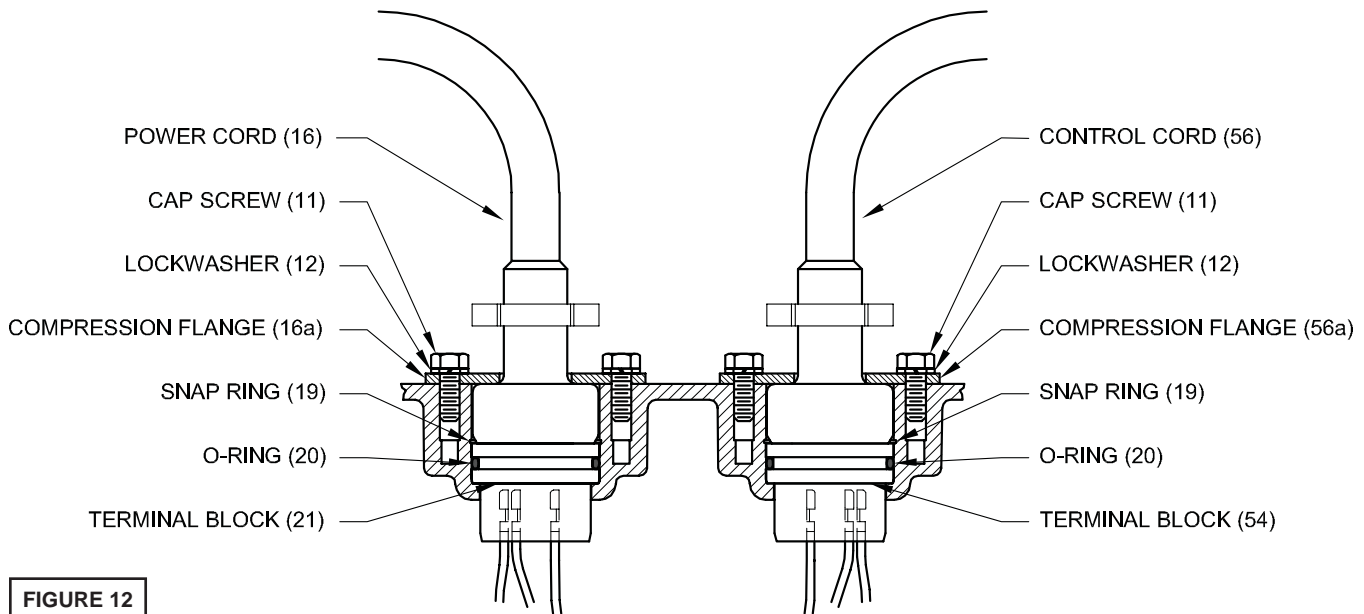

FIGURE 12
Check power cords (16) and control cord (56, if used), for cracks or damage and replace if required (see Figure 12). Make internal wiring connections which are independent of the terminal block as shown, using connectors (48) and wire assemblies (49) as required. **Do not** use wire nuts. Slip motor leads and ground wire into fiberglass sleeve. Lower motor housing (6) down onto seal plate (5) while aligning holes and stringing motor leads through the cord entry bore(s). (Slipping cords inside a 1 ft. length of .5" conduit makes this easier). Place socket head cap screws (47) through seal plate (5) into motor housing (6) and torque to 60 in-lbs. Reconnect motor and optional control leads to the underside of the terminal block(s) (21), (54 optional) as shown in Figure 14. Note that the pins are numbered underneath the terminal block. Place o-ring (20) into groove in terminal block and lubricate with dielectric oil.